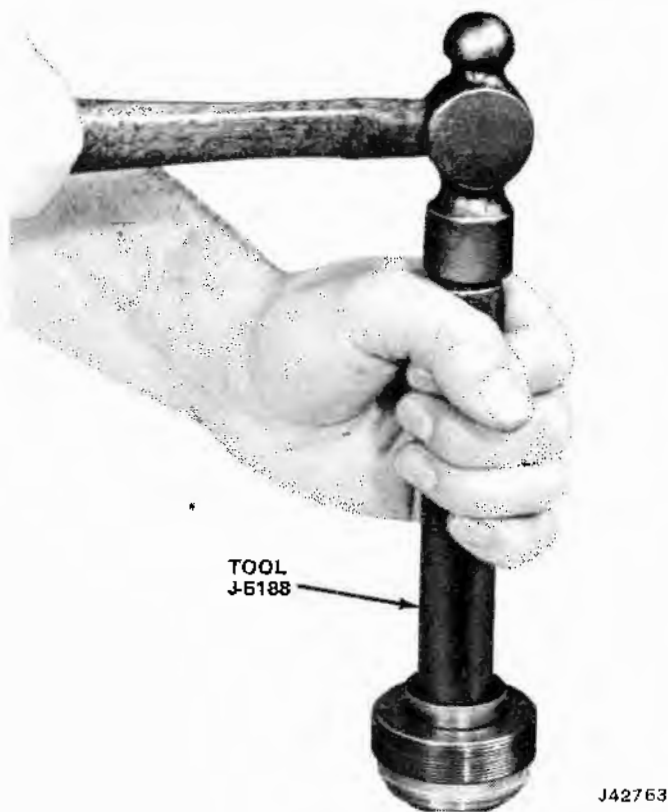

Fig. 11-82 Installing Stub Shaft Seal in Adjuster Plug
(9) Lubricate new stub shaft seal with automatic transmission fluid (Dexron or equivalent), and using Tool J-5188 (fig. 11-82) install far enough to provide clearance for dust seal and retaining ring.